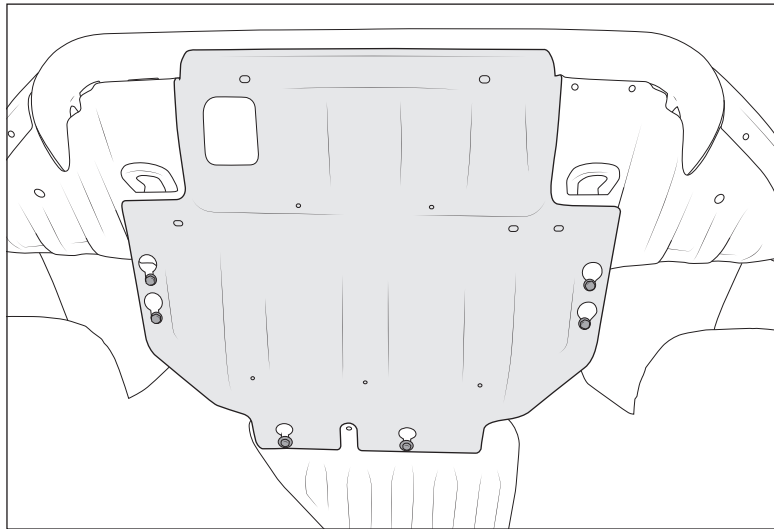

Figure 3
3. Remove Skid 1B by removing the 6 bolts (fig.3).
19. Reinstall Skid 1B (fig. 3).